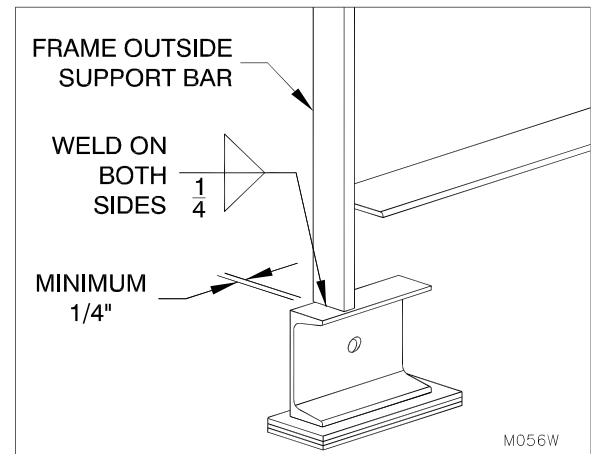

Figure 19: 30,000 lb + Outer Rear Shims (4" Shim Kit Channel Shim Shown)
18. ___ For 30,000 MD models and higher capacities, weld the additional two rear shims to the outside support bar of the frame as shown in "Figure 19: 30,000 lb + Outer Rear Shims (4" Shim Kit Channel Shim Shown)" on page 14 and shim until they are fully supported. Weld all of the shims to each other as well as to the dock leveler frame.